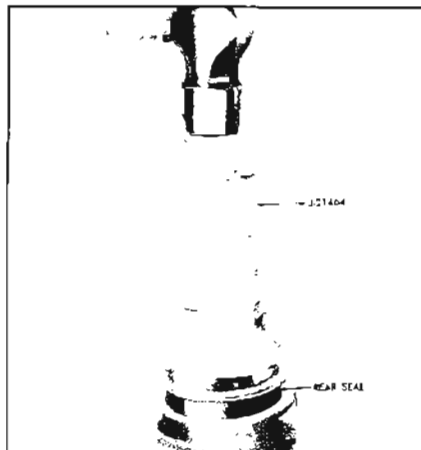

Figure 5-707
3. If necessary, install a new rear seal, using Seal Installer Tool J-21464. See Figure 5-707.